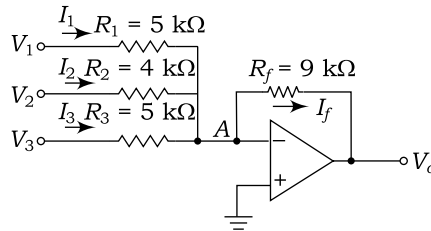

Fig. 7.104
24. An operational amplifier circuit is shown in Fig. 7.104. Determine the output voltage V_o and current flows through R_1 , R_2 , R_3 and R_f . Assume $V_1 = 3 \text{ V}$, $V_2 = -5$ and $V_3 = 2 \text{ V}$